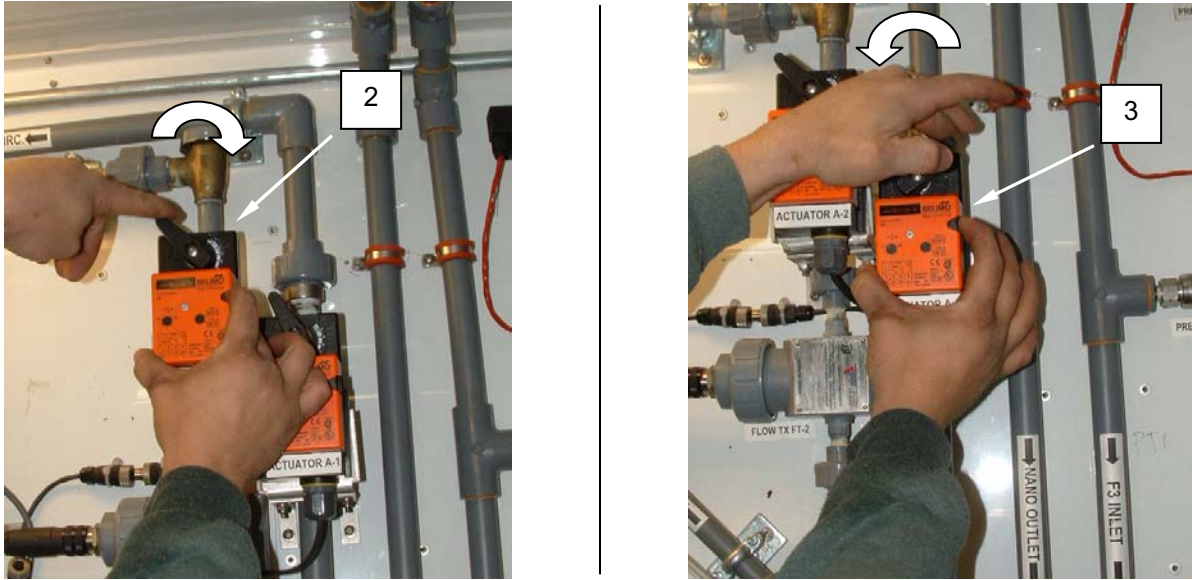

Figure 3. Nanofilter Cleaning Procedure – Manually Set Actuators.
3. Press the valve release and manually close Actuator A-3 (Figure 3, Item 2).
4. Press the valve release and manually open Actuator A-4 (Figure 3, Item 3).